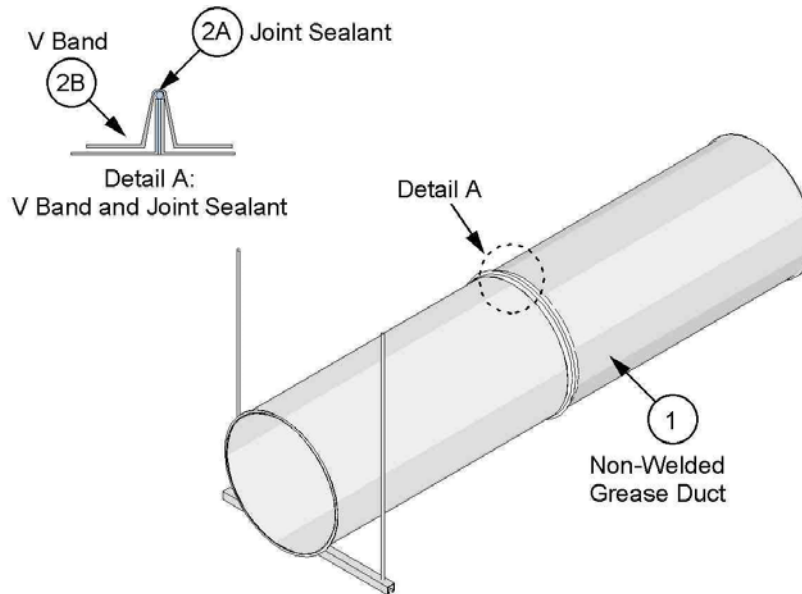

Figure 1. Non-Welded Grease Duct Model No. VDW
- B. **V BAND –** Use the supplied V band (see Figure 1). Place the loose V band, filled with sealant (Item 2A), over one of the